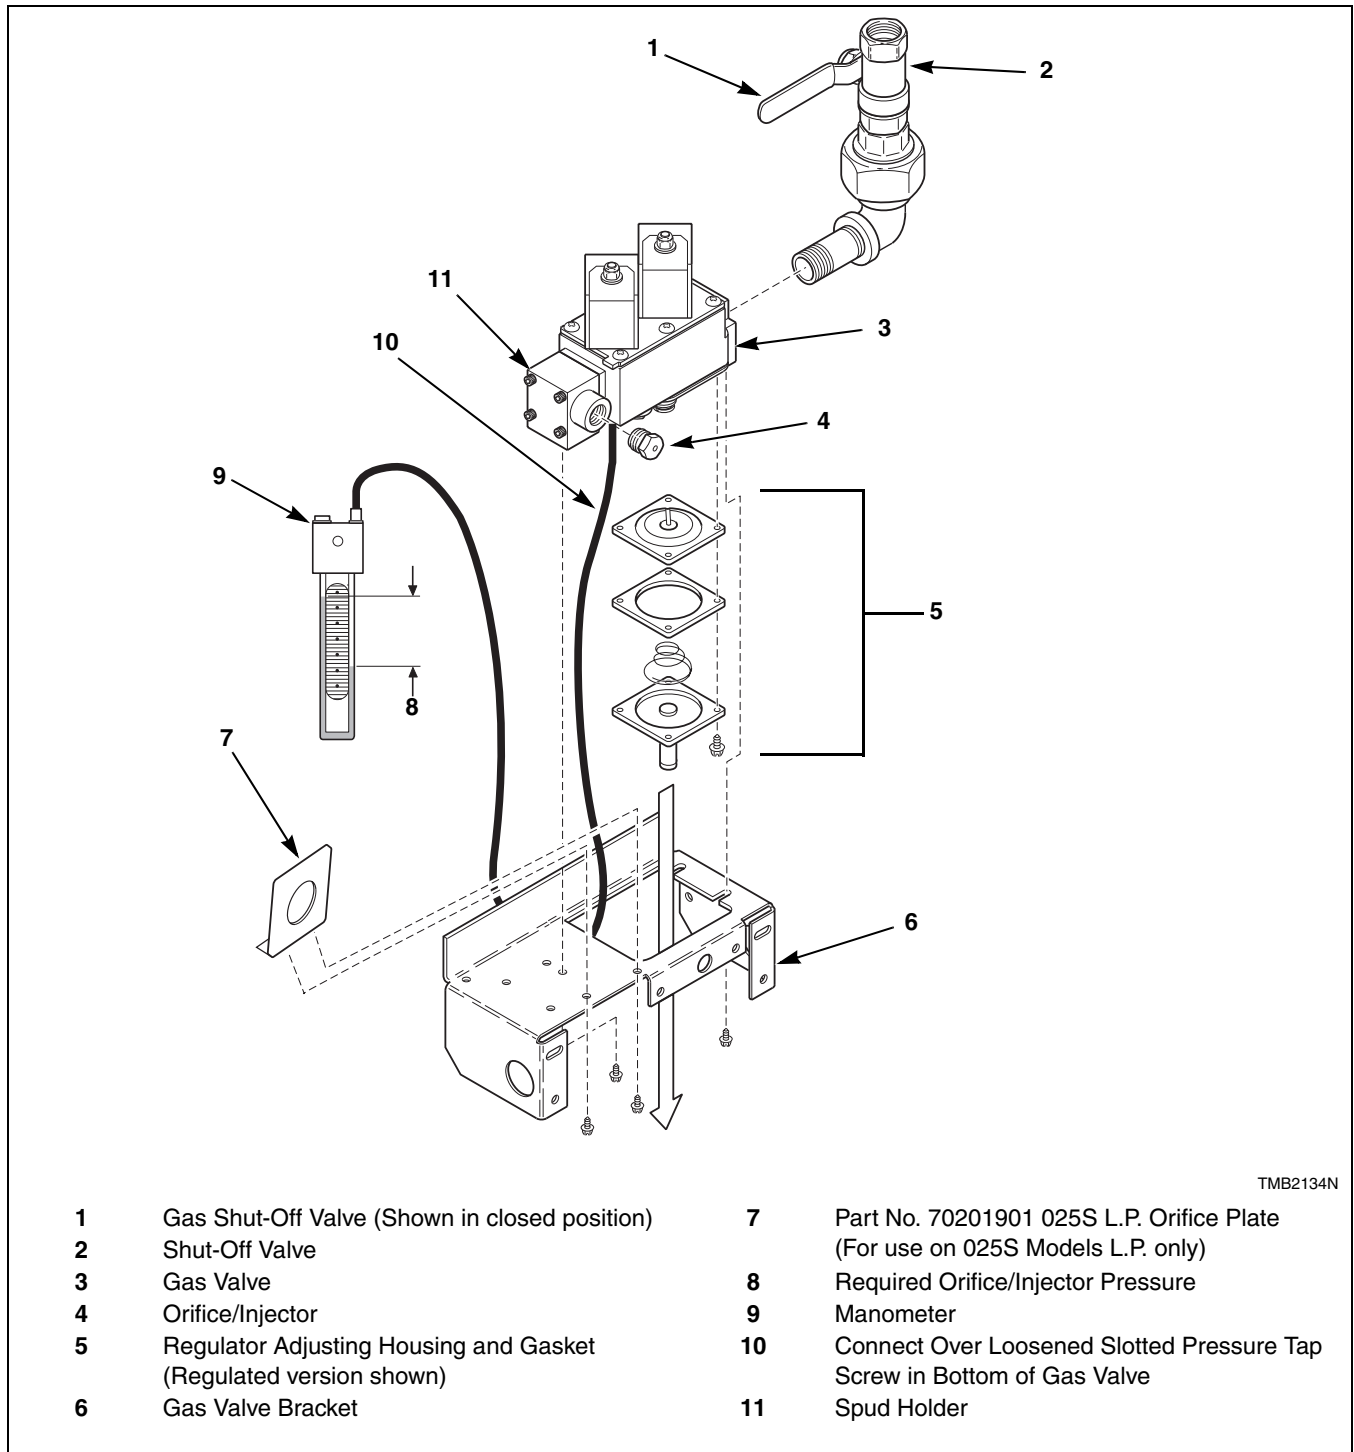

Figure 7
1. Disconnect electrical power from tumbler. Close gas shut-off valve to tumbler. Refer to *Figure 7*.
4. For 025S Models, L.P. Gas only. Install 025S L.P. orifice plate (Part No. 70201901) onto gas valve bracket. Refer to *Figure 7*.
Remove burner orifice(s) from the spud holder. Refer to *Figure 7*.
1. Check gas injector (manifold) pressure as follows. Refer to *Figure 7*.